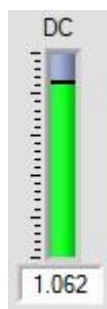

Figure 4.4 DC Level Indicator
Figure 4.4 shows the strength of the detector signal (DC). The DC level is important because it represents the light intensity that is reaching the detector. A low DC level means the light is being blocked in some way. More light reaching the detector means more signal strength and less noise in the measurement. .